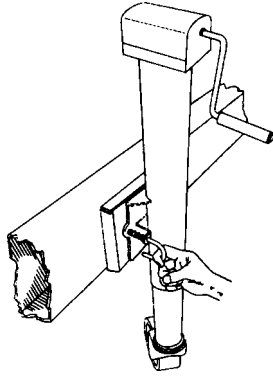

Figure R3: Swivel Jack
1. Pull on the lock pin. See Figure R3.